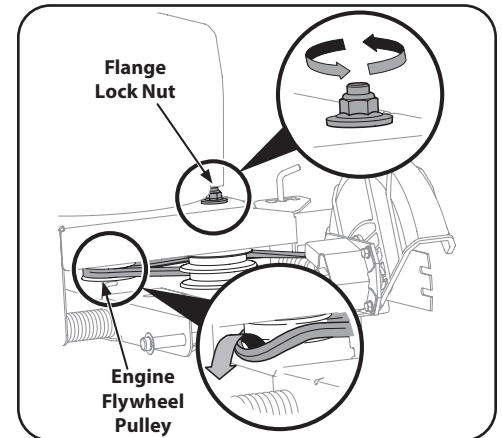

Figure 4-3
NOTE: To aid in reassembly, note the orientation of the drive belt on the two idler pulleys and the engine flywheel pulley prior to performing the following steps. Refer to Figure 4-3.
1. Working in front of the edger, loosen the flange lock nut on top of frame, allowing the idler pulley assembly to pivot slightly out from the frame. See Figure 4-3.
2. With your other hand, carefully reach under the rear of the edger and remove the belt from around the engine flywheel pulley. See Figure 4-3.